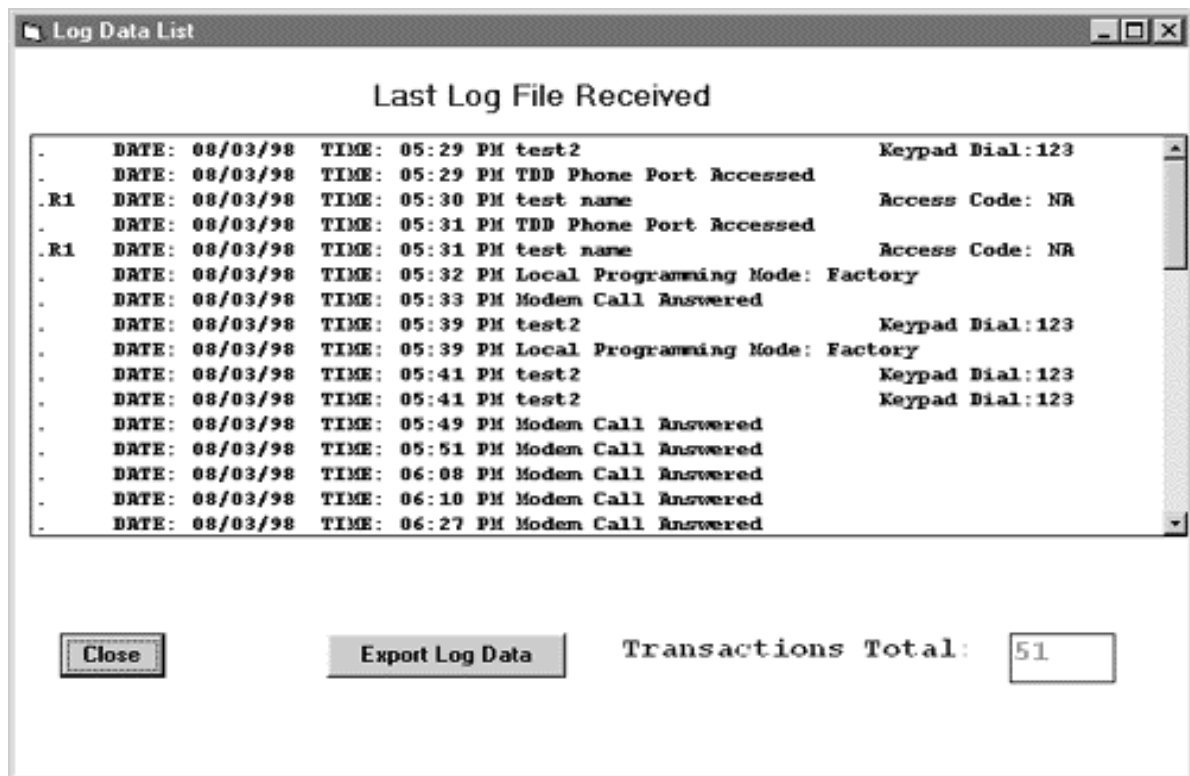

Figure 5.6.3a
a) Click on the **Log File** command from the pull down menu under the **Open File** command on the *Main Command* window. The *Log Data List* window (Figure 5.6.3a) will then be displayed.